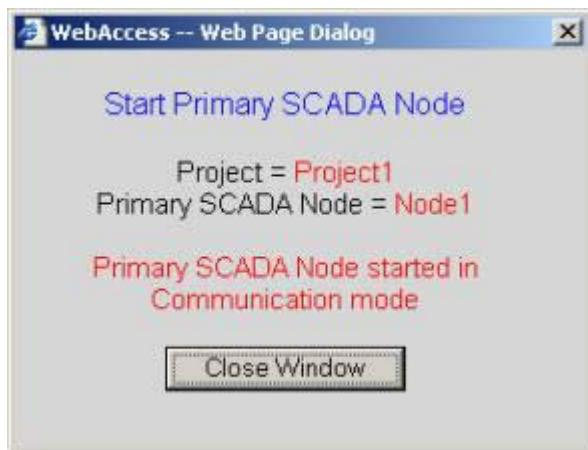

Figure 3-11 - Start SCADA Node
6. The Start Node Dialog Box pops open (Figure 3-11).
7. When Node is started, select Close Window (Figure 3-11).